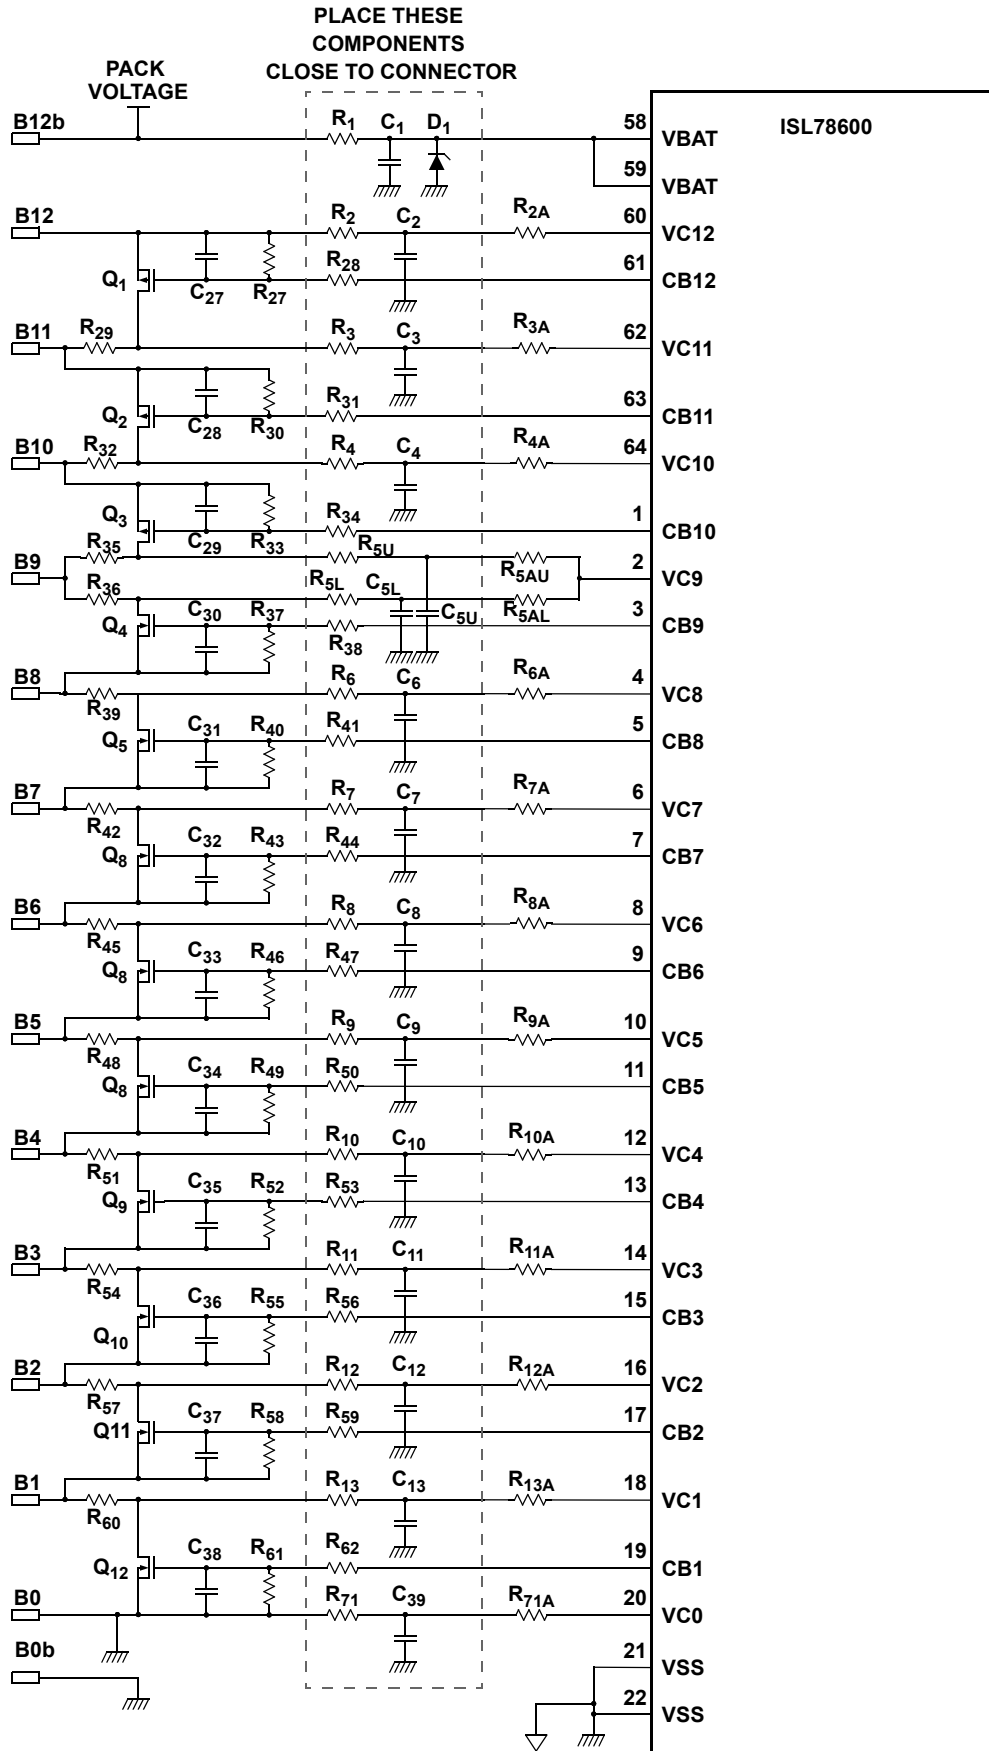
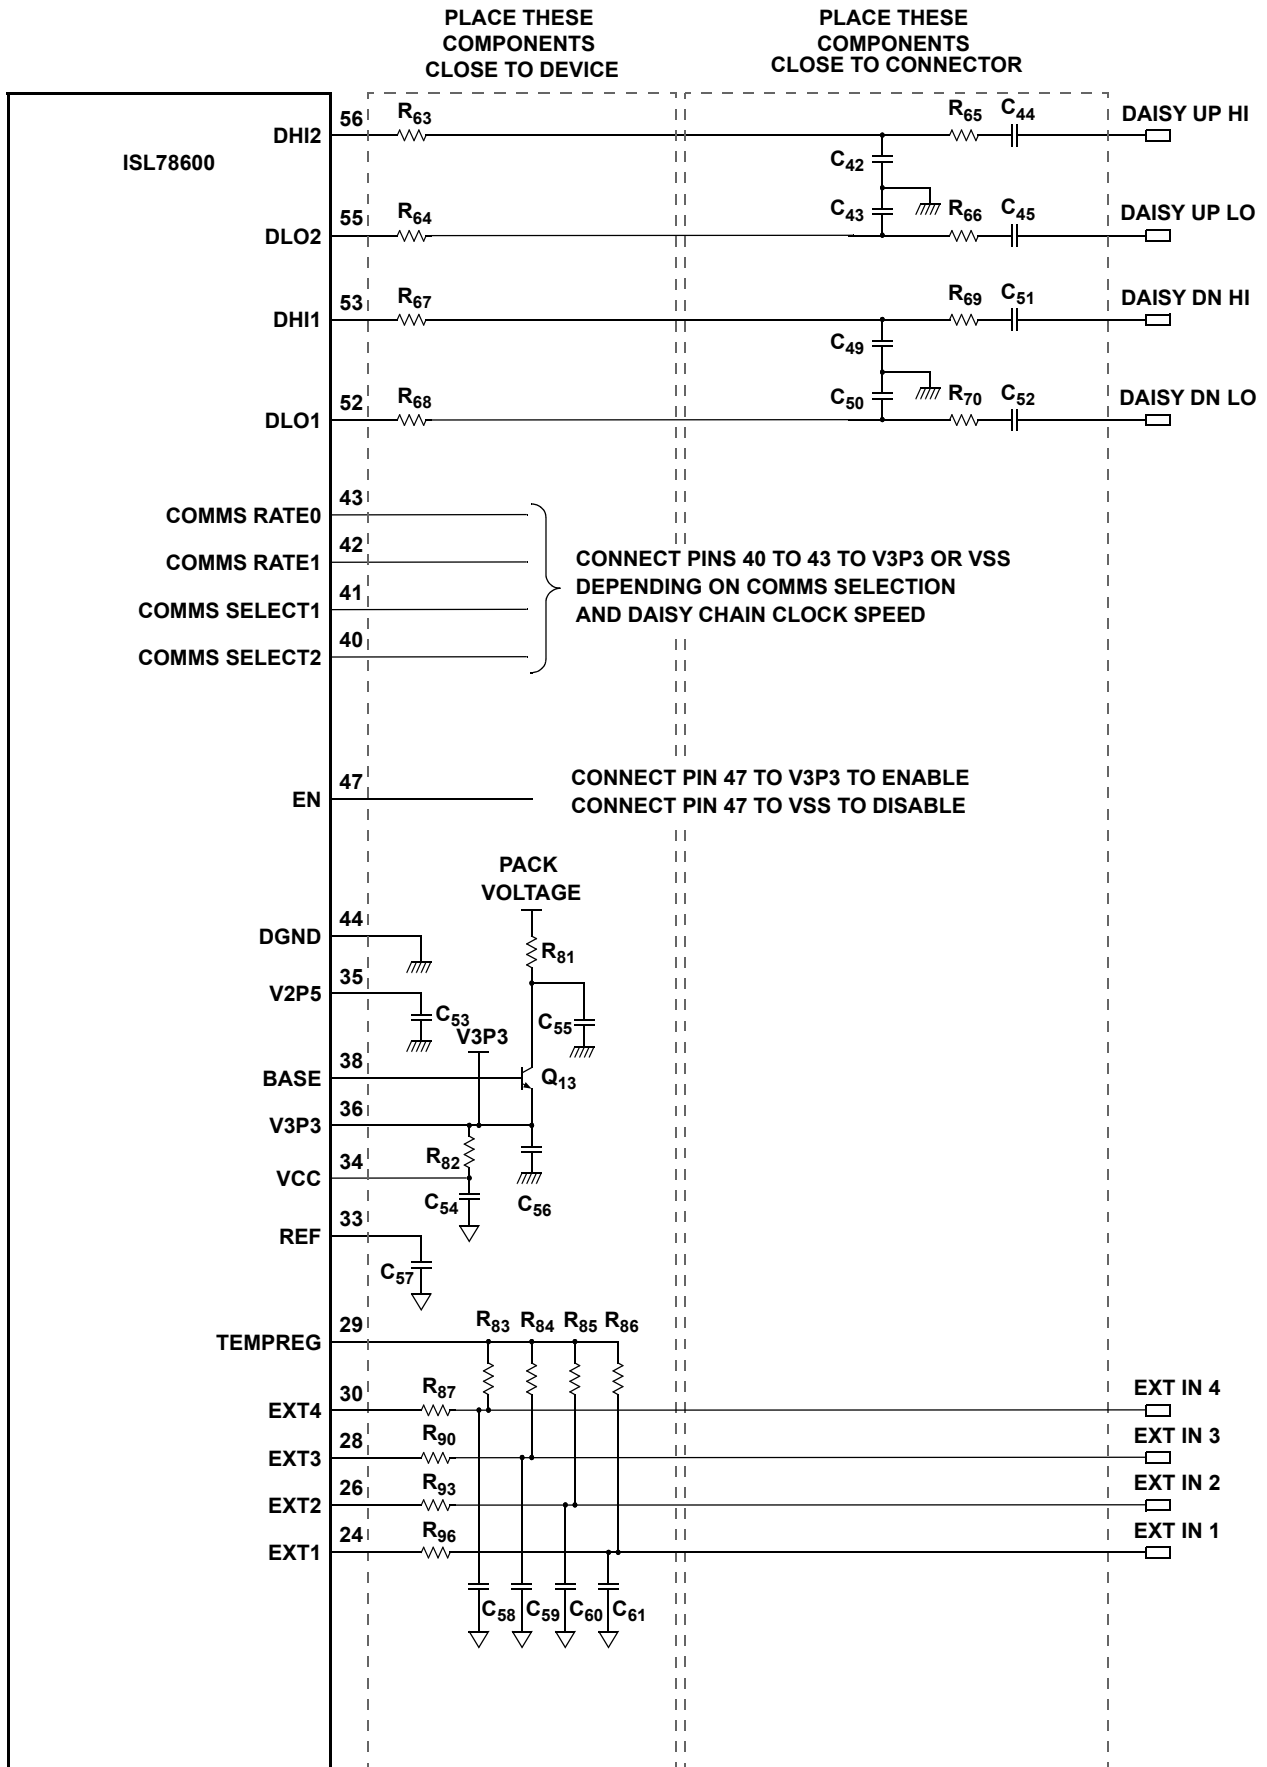
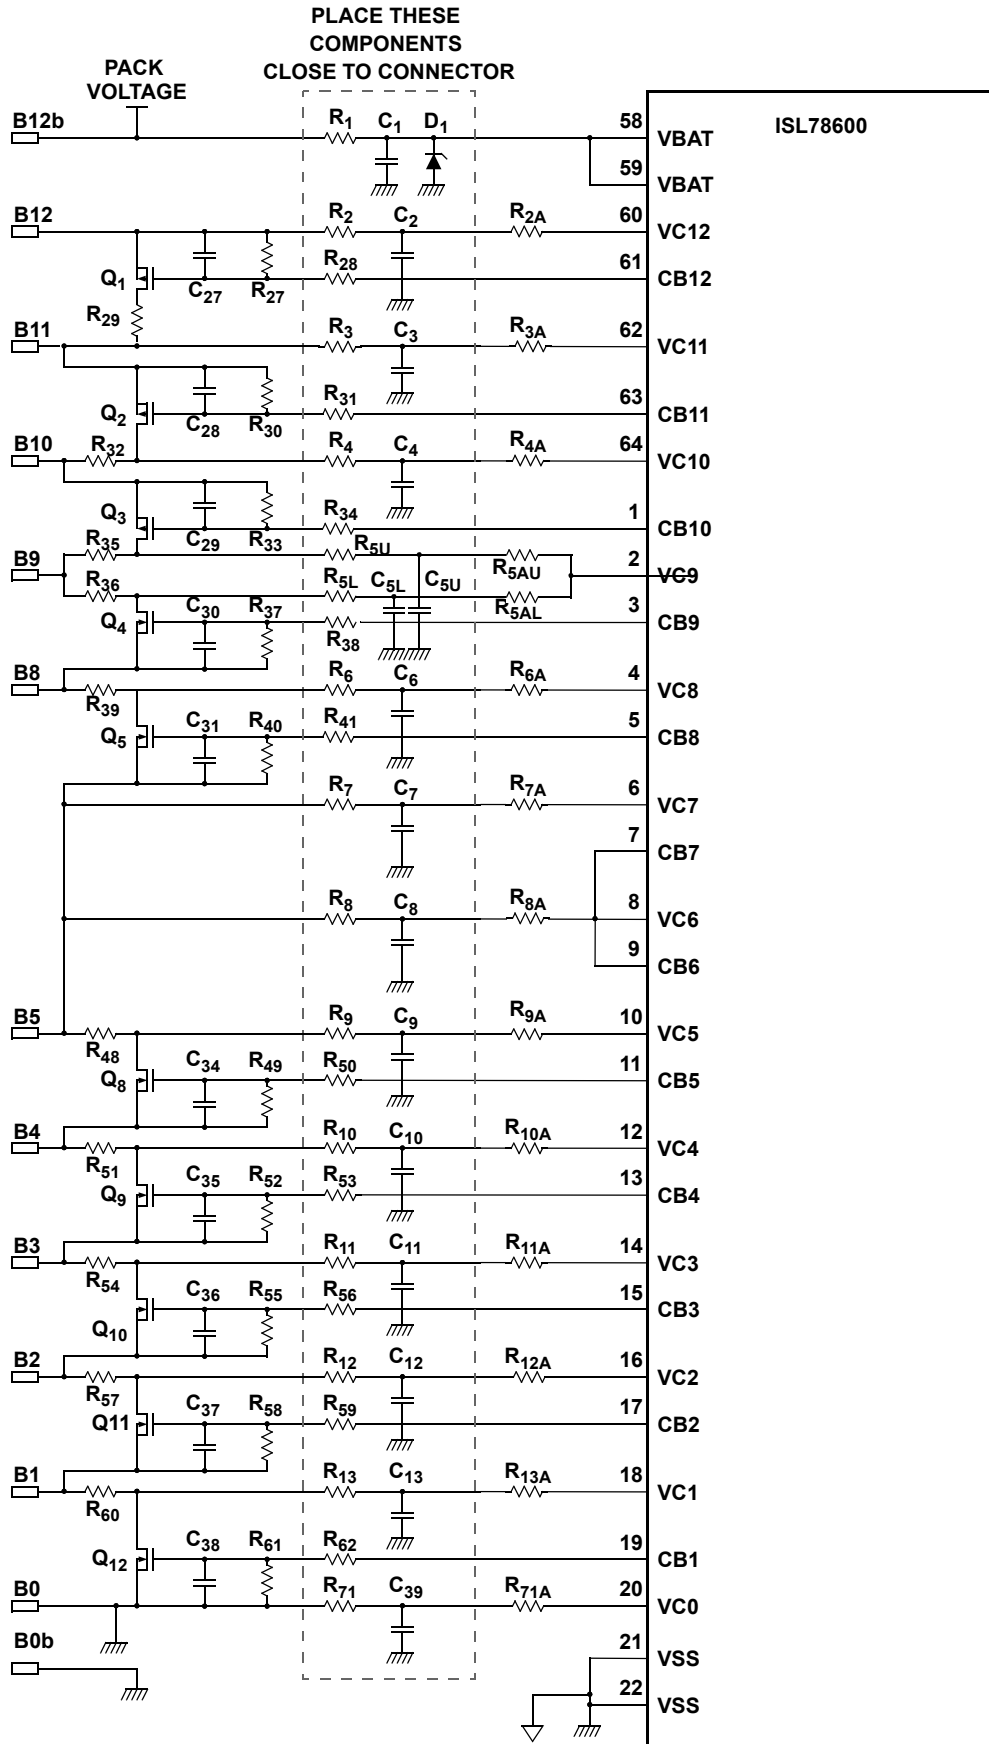
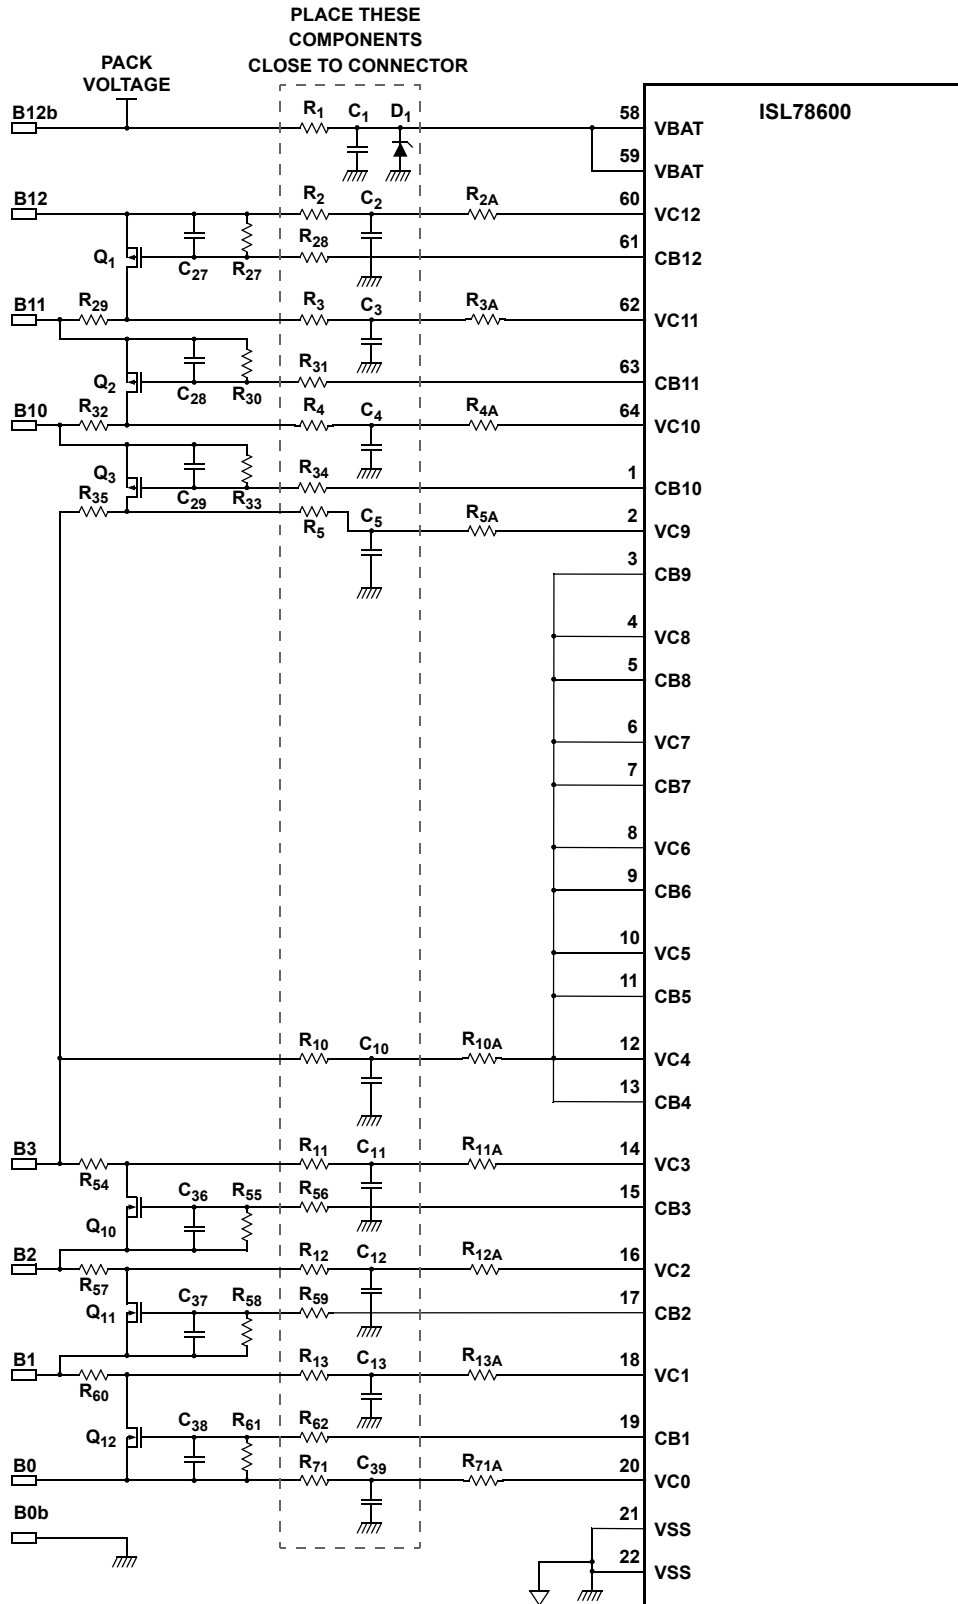

Figure 51. Typical Battery Connection Circuit
Figure 52. Typical Non-Battery Connection Circuits For Middle and Top Daisy Chain Devices
Figure 55. Typical 10 Cell Battery Connection Circuit
Figure 57. Typical 6 Cell Battery Connection Circuit
Typical application circuits are shown in Figures 51 through 57. Table 13 on page 48 contains recommended component values. All external (off-board) inputs to the ISL78600 are protected against battery voltage transients by RC filters. They also provide a current limit function during hot plug events. The ISL78600 is calibrated for use with 1kΩ series protection resistors at the cell inputs. VBAT uses a lower value resistor to accommodate the VBAT supply current of the ISL78600. A value of 27Ω is used for this component. As much as possible, the time constant produced by the filtering applied to VBAT should be matched to that applied to the Cell 12 monitoring input. Component values given in Table 13 produce the required matching characteristics.
Figure 51 on page 41 shows the standard arrangement for connecting the ISL78600 to a stack of 12 cells. The cell input filter is designed to maximize EMI suppression. These components should be placed close to the connector with a well controlled ground to minimize noise for the measurement inputs. The balance circuits shown in Figure 51 provide normal cell monitoring when the balance circuit is turned off, and a near zero cell voltage reading when the balance circuit is turned on. This is part of the diagnostic function of the ISL78600.
Figure 52 on page 42 shows connections for the daisy chain system, setup pins, power supply, and external voltage inputs for daisy chain devices other than the master (stack bottom) device.
The input circuit component count can be reduced in cases where fewer than 10 cells are being monitored. It is important that cell inputs that are being used are not connected to other (unused) cell inputs as this would affect measurement accuracy. Figures 55, 56, and 57 show examples of systems with 10 cells, 8 cells, and 6 cells, respectively.
The component notations and values used in Figures 55, 56, and 57 are the same as those used in Figures 51. But in Figure 57, the resistor associated with the input filter on VC9 is noted as  $R_5$ , rather than R5U. This value change is needed to maintain the correct input network impedance in the absence of the Cell 9 balance circuits.
**Table 13. Recommended Component Values for Circuits in (Figure 52 through Figure 57)**
For Figure 52 on page 42 (battery connection circuits), the basic input filter structure is composed of resistors R2 to R13, R71, and capacitors C2 to C13 and C39. These components provide protection against transients and EMI for the cell inputs. They carry the loop currents produced by EMI and should be placed as close to the connector as possible. The ground terminals of the capacitors must be connected directly to a solid ground plane. Do not use vias to connect these capacitors to the input signal path or to ground. Any vias should be placed in line to the signal inputs so that the inductance of these forms a low pass filter with the grounded capacitors.
A dual point failure in the balancing resistors ( $R_{29}$ ,  $R_{32}$ ,  $R_{35}$ , etc.) of Figure 52 on page 42 and associated balancing MOSFET ( $Q_1$  to  $Q_{12}$ ) could also give rise to a shorted cell condition. It is recommended that the balancing resistor be replaced by two resistors in series.